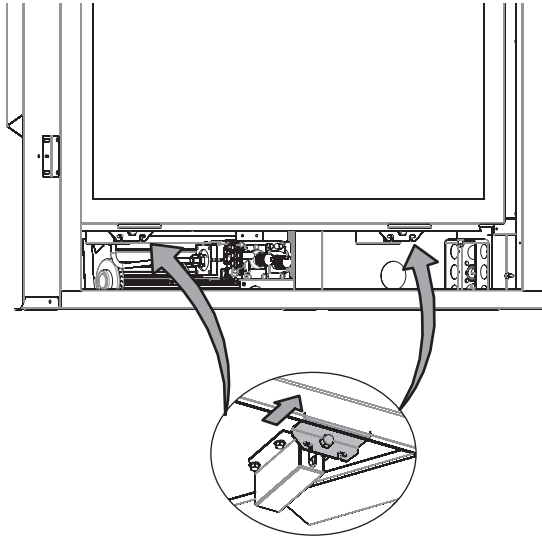

Figure 79
- Check the barrier screen for fit and structural integrity. **See Figure 79.**